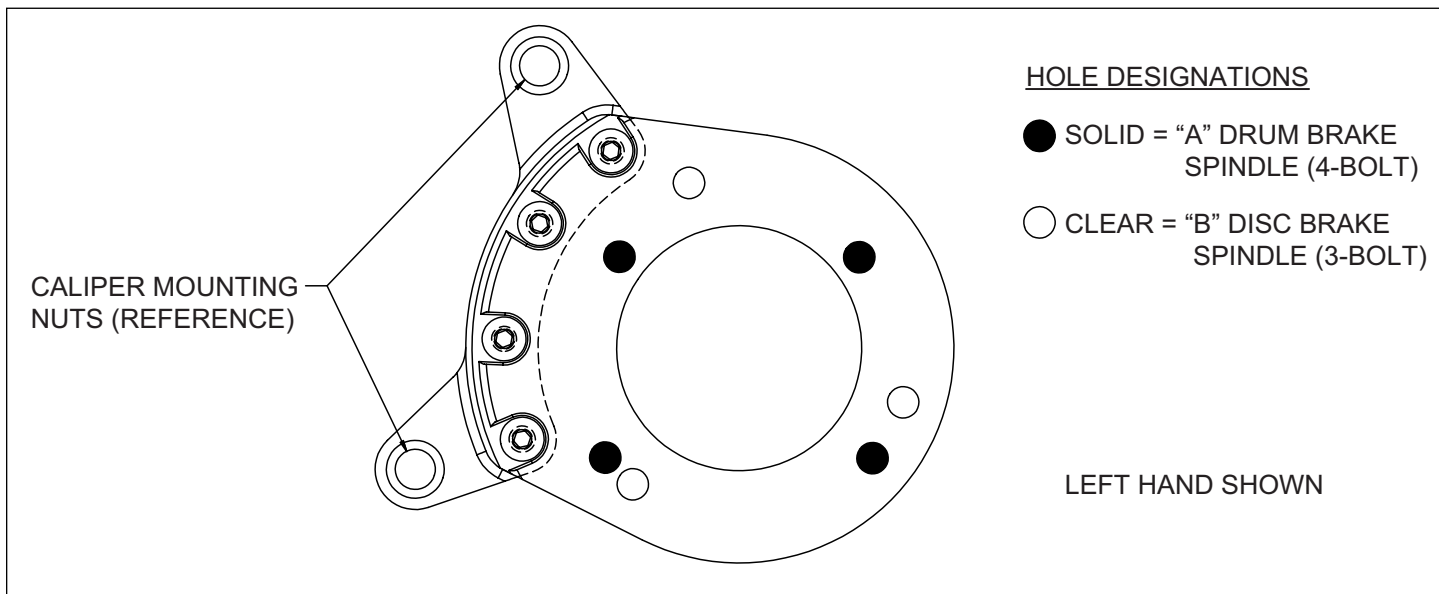
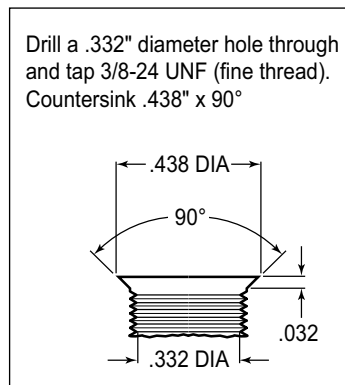
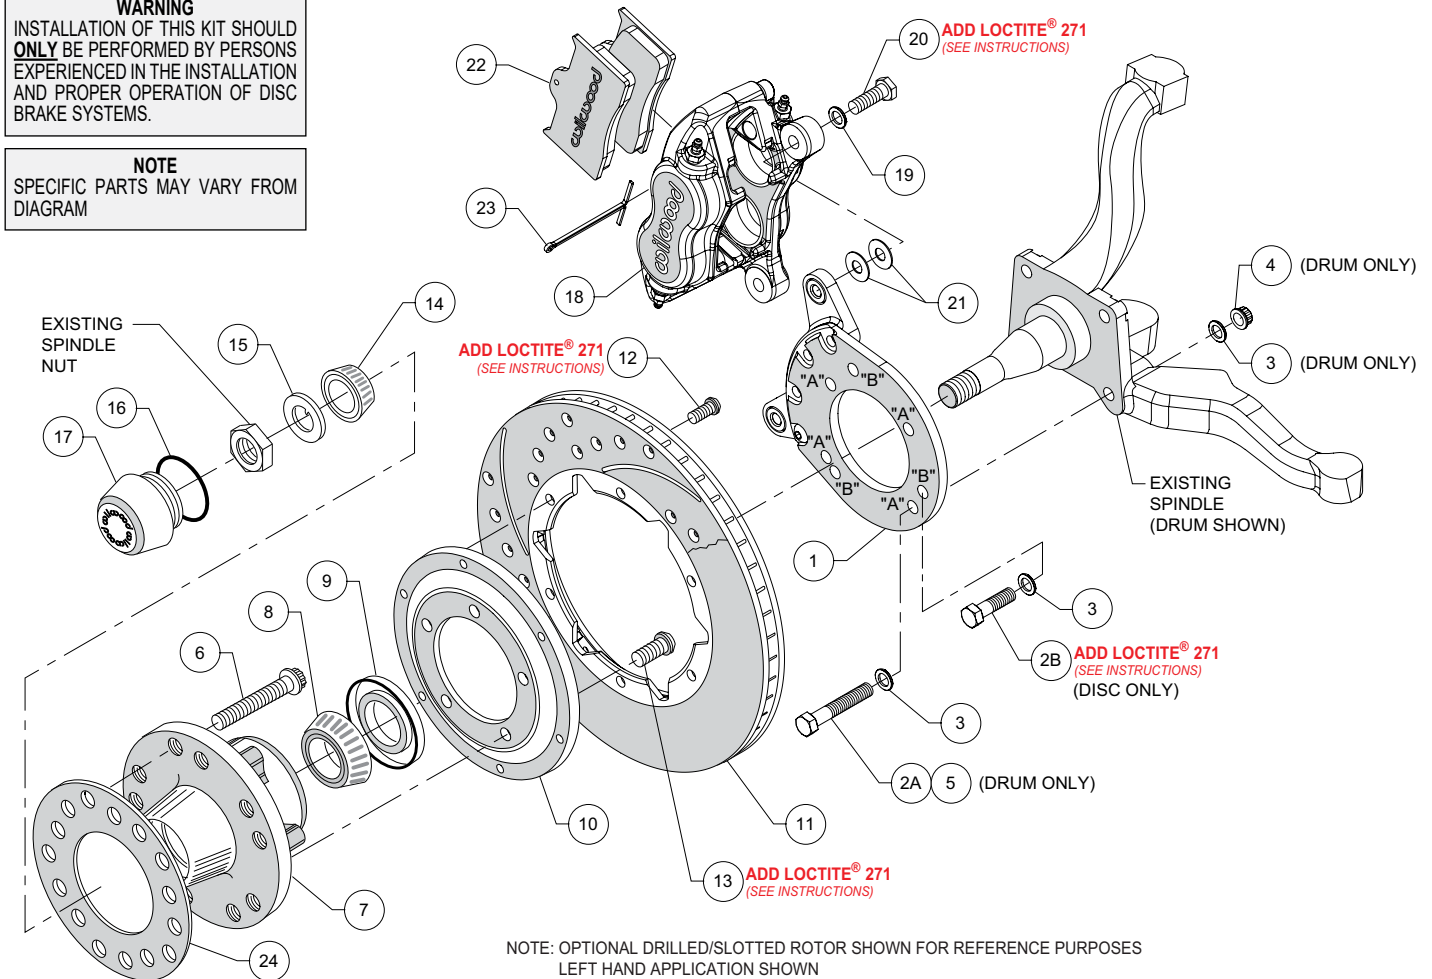
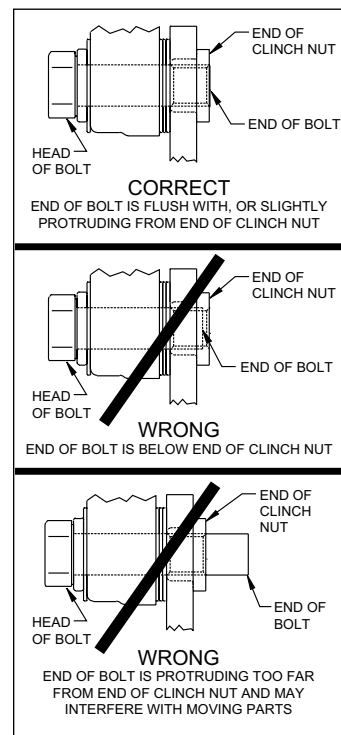

Figure 1. Wilwood Caliper Mounting Bracket
Figure 2. Drill and Tap Detail
Figure 4. Typical Installation Configuration
Figure 5. Clinch Nut Engagement Diagram
This kit has been designed for use with both the disc brake or the drum brake configuration of vehicle. The only difference is in how the Wilwood caliper mounting bracket is installed. The same bracket is used for both configurations; the disc brake version utilizes three mounting holes while the drum brake application uses four mounting holes (see Figure 1). For your convenience we have supplied bolt kits for both applications (see parts list and Figure 4 as necessary). Use the bolt kit that is applicable to your vehicle and disregard the other one.
NOTE: This modification should be performed by a qualified machinist and completed before assembly of the Wilwood disc brake kit begins. Using the caliper mounting bracket as a template (refer to Figure 1 as necessary), locate and verify the three original holes on the spindle that need to be modified. Drill a .332" diameter hole through all three holes, then tap 3/8-24 UNF (fine thread). Countersink the holes to .438" diameter x 90°, as shown in Figure 2.
NOTE: Numbers in parenthesis refer to the parts list on the preceding page and Figure 4.
CAUTION: All mounting bolts must fully engage clinch nuts. Be sure to check that all bolts are either flush or protruding through flanged side of clinch nut after shimming, Figure 5.
•**NOTE:** This kit uses the same mounting bracket (1) for both the drum and disc brake spindles. The drum version, Photo 1, uses four mounting bolts (designated "A"), while the disc version, Photo 2, uses three (designated "B"). Refer to Figures 1 and 4 for the basic installation position of the bracket and the "A" and "B" reference designations (not physically marked on the brackets).
For Drum Spindle: Align bracket, using the four "A" holes, to the face of the spindle and attach using bolts (2A and 5), washers (3), and lock nuts (4), as shown in Figure 4. Ensure that the flanged heads of the clinch nuts in the bracket are facing outboard, Photo 1. Torque nuts to 30 ft-lb.
For Disc Spindle: Align bracket, using the three "B" holes, to the face of the spindle and attach using bolts (2B) and washers (3), as shown in Figure 4. Finger tighten. Ensure that the flanged heads of the clinch nuts in the bracket are facing outboard, photo 2. Remove bolts one at a time, apply red *Loctite*® 271 to threads, and torque to 40 ft-lb.
- Install wheel studs (6) into the hub (7), Photo 3. Torque to 77 ft-lb. **NOTE:** There are two five lug patterns in the hub (5 x 4.50 and 5 x 4.75). Ensure the correct hub stud pattern is being used to fit the wheel application.
- Pack the large inner bearing cone (8) with high temperature disc brake bearing grease (available from your local auto parts store) and install into the backside of the hub (7), Photo 4.
- Install the grease seal (9) by pressing into the backside of the hub (7), flush with the end of the hub, Photo 4.
- Orient the rotor (11) and the rotor adapter (10) as shown in Figure 4 and Photo 5. Attach the rotor to the adapter using bolts (12). Using an alternating sequence, apply red *Loctite*® 271 to the threads, and torque to 25 ft-lb.
- Mount the adapter/rotor assembly (10/11) to the hub (7) using bolts (13), as shown in Figure 4 and Photo 6. Using an alternating sequence, apply red *Loctite*® 271 to the threads, and torque to 45 ft-lb.
- Pack the small outer bearing cone (14) with high temperature disc brake bearing grease and install into hub (7). Slide the hub/rotor assembly onto the spindle. Secure using spindle washer (15) and OEM spindle nut, Photo 7. Adjust bearings per OEM specifications. Install saved OEM nut lock (if any) and a new cotter pin (not included).
- Screw dust cap (17) into hub (7), Photo 8. Friction created by the o-ring (16) on the dust cap keeps it from unscrewing. **NOTE:** The O.D. of the existing OEM spindle washer may be larger than the I.D. of the dust cap not allowing it to seat against the hub face. Therefore, use the spindle washer (15) supplied with the kit instead of the OEM washer.
- NOTE:** Please reference the caution statement at the beginning of the assembly instructions. Mount the caliper (18) onto the caliper mounting bracket (1) using bolts (20) and washers (19), as shown in Figure 4. Initially place two .035" thick shims (21) on each bolt between the caliper and the bracket, Photo 9. Temporarily tighten the mounting bolts and view the rotor (11) through the top opening of the caliper. The rotor should be centered in the caliper, Photo 10. If not, adjust by adding or subtracting shims between the bracket and the caliper. Always use the same amount of shims on each of the two mounting bolts. **NOTE:** The end of each bolt must be flush with or slightly protruding from the head of the clinch nut, as shown in Figure 5. If necessary place spare shims between